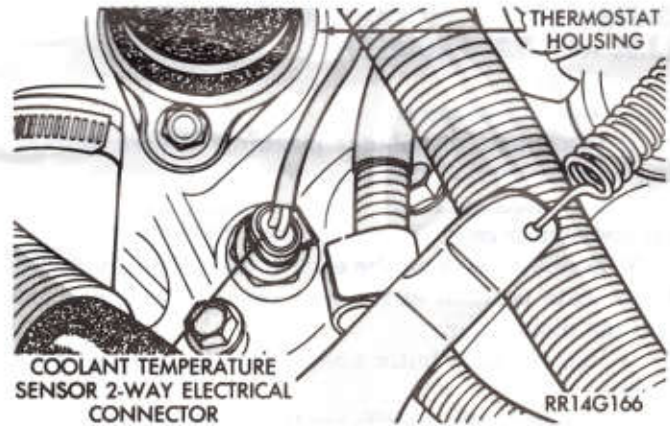

Fig. 9—Engine Coolant Temperature Sensor
(3) Turn selector switch to the appropriate cylinder position.
(4) Start engine and run until operating temperature is obtained.
(5) With engine at normal operating temperature, disconnect coolant temperature sensor (Fig. 9). The I/P lamp should come on.